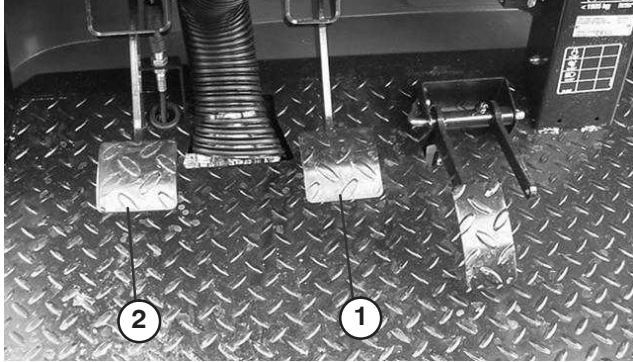

Figure 42
2. Lift up on brake pedal (Fig. 42) until it contacts frame.